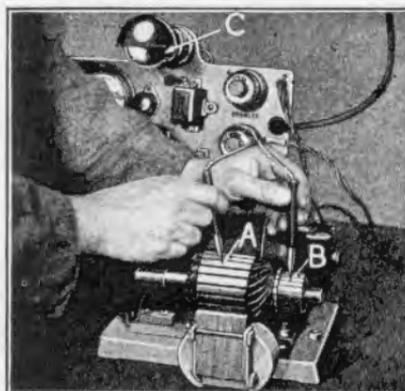

Fig. 476
- 934 To test for grounds, place test points in center of armature laminations and commutator segment (See "A" and "B" Fig. 476). If test lamp "C" lights, there is a ground in the armature and a new armature should be installed. If test lamp fails to light armature is not grounded.